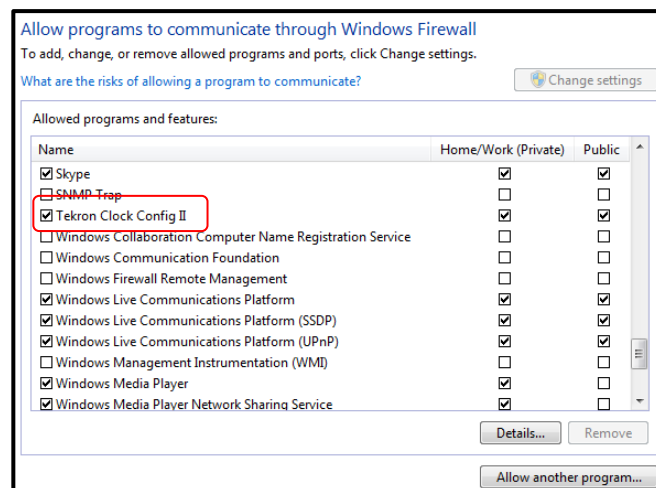

Figure 10 - Configuration software added to allowed programs list
- Click the “Add” button. “Tekron Clock Config II” should now appear in the allowed programs list. Refer to Figure 10.